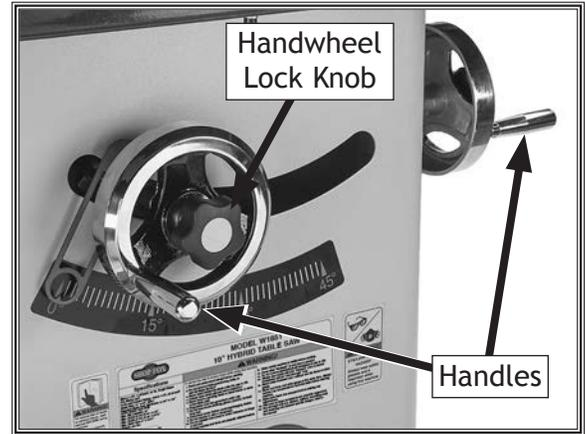

Figure 20. Handwheel installed.
5. Thread a handwheel lock knob into center of each handwheel and tighten, then thread a handle onto each handwheel and tighten (see **Figure 20**).